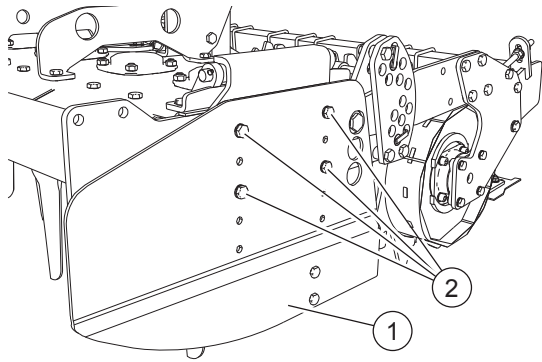

FIG. 36
Loosen screws (2, "Fig. 36"). Raise and lower the side shield (1). Tighten screws (2).